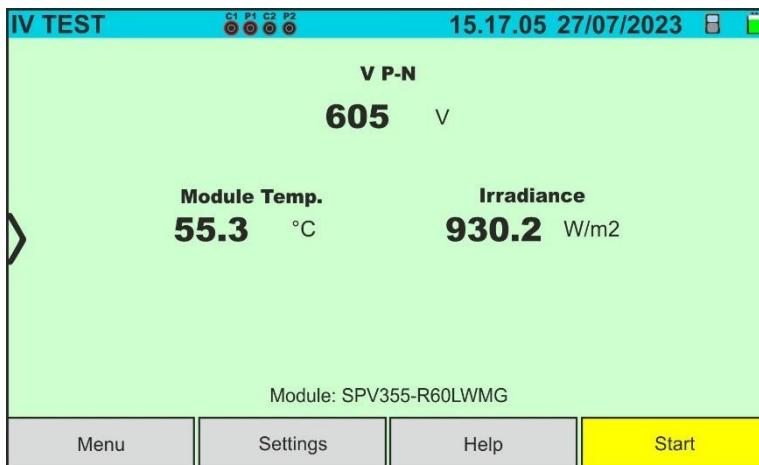

Fig. 40: Initial I-V curve measurement screen on Monofacial modules
4. In the case of **Monofacial** modules, the Fig. 40 screen is present on the display. The following parameters are shown:
5. In the case of **Bifacial** modules, the screen Fig. 40 is present on the display. The following parameters are shown: